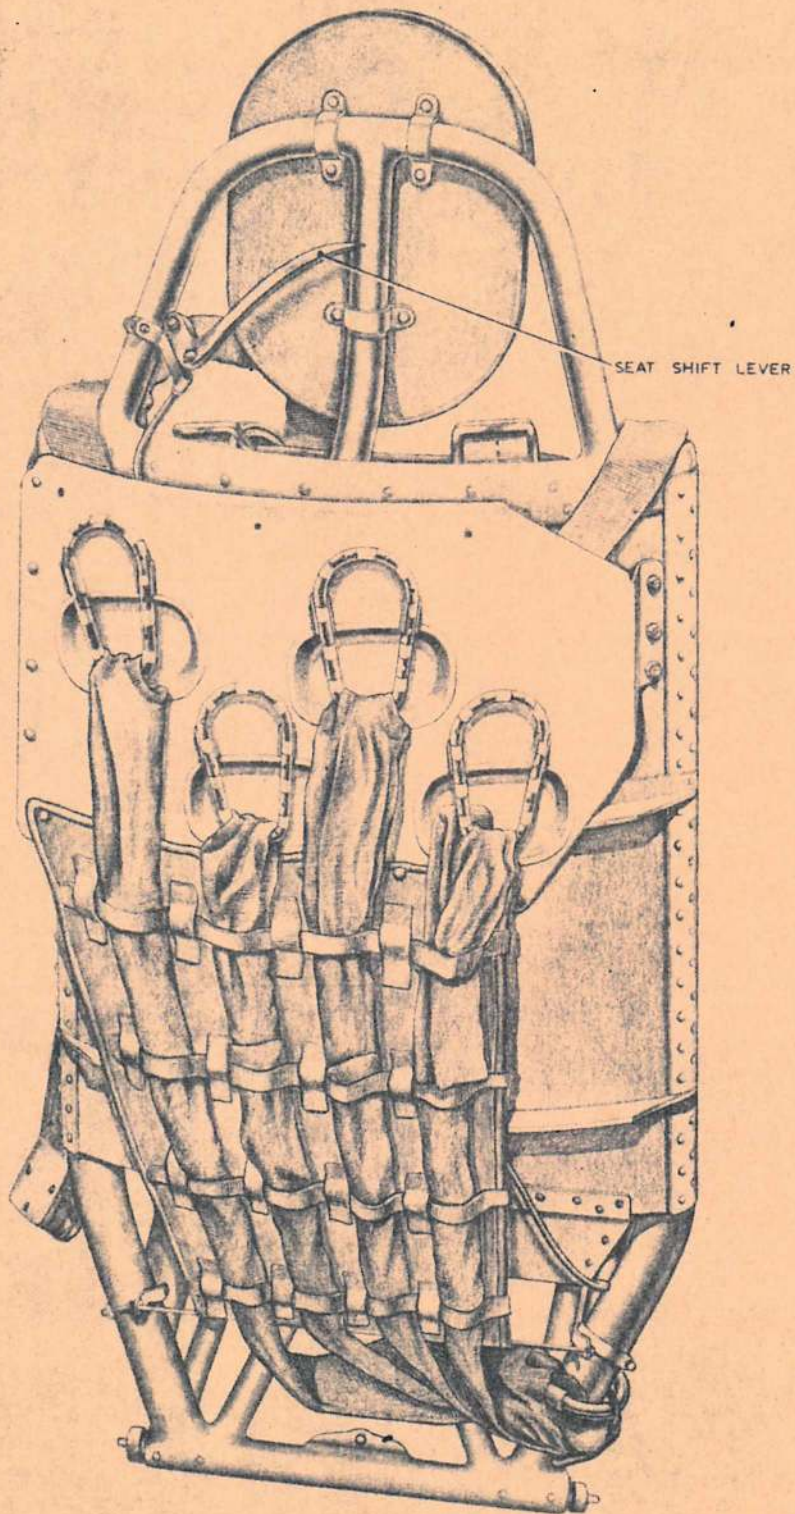

Fig. 9. Static line stowage on port side seat
20. Static lines for use in conjunction with the parachute assembly Back Type Mk. 20 are stowed on the back of the port side crew seat (fig. 9).